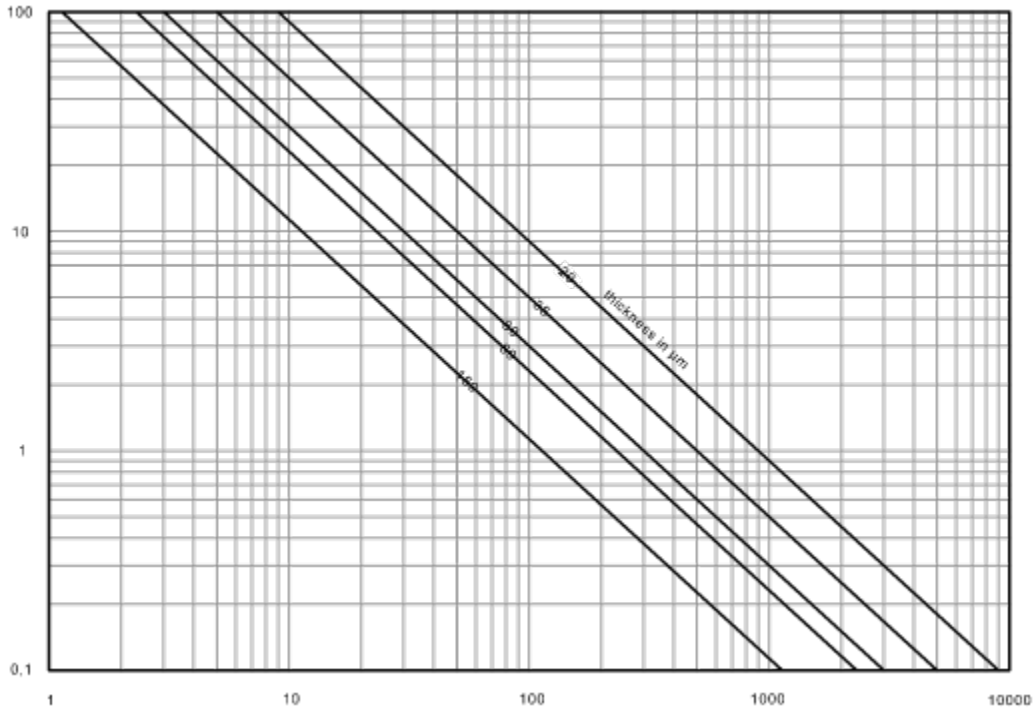

Figure 7
Enter the angle, preceded by a minus sign (-) (the text is rotated clockwise, mathematically negative) into the Lettering>Text>Standard dialog. In the example 3 mm high text is used. Place the text up against the graph line in the diagram. It is not necessary to go through the whole process for each new piece of text - it is enough to restart the command using SHIFT+ESC (N) and enter a new text (Figure 7).